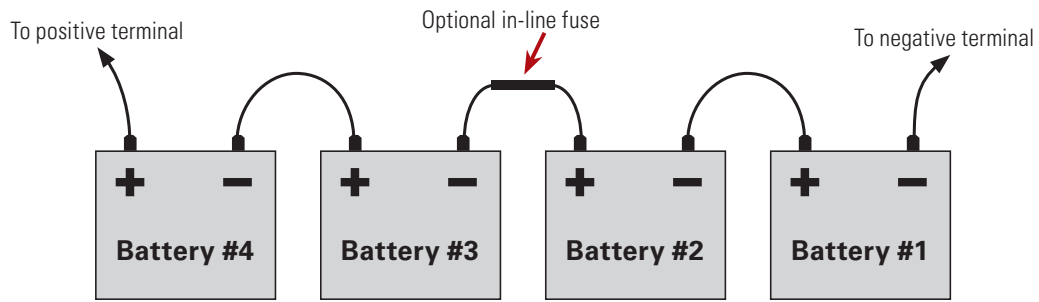
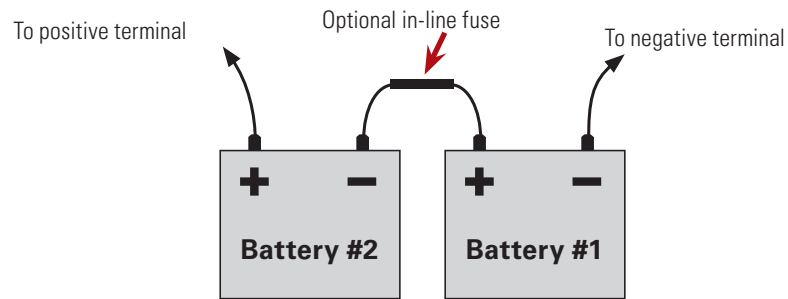

Figure 17: Alpha® FXM HP UPS external battery wiring for a 48 Vdc string
Figure 18: Alpha® FXM HP UPS external battery wiring for a 24 Vdc string
3. Connect the batteries as shown in Figure 17 and Figure 18.